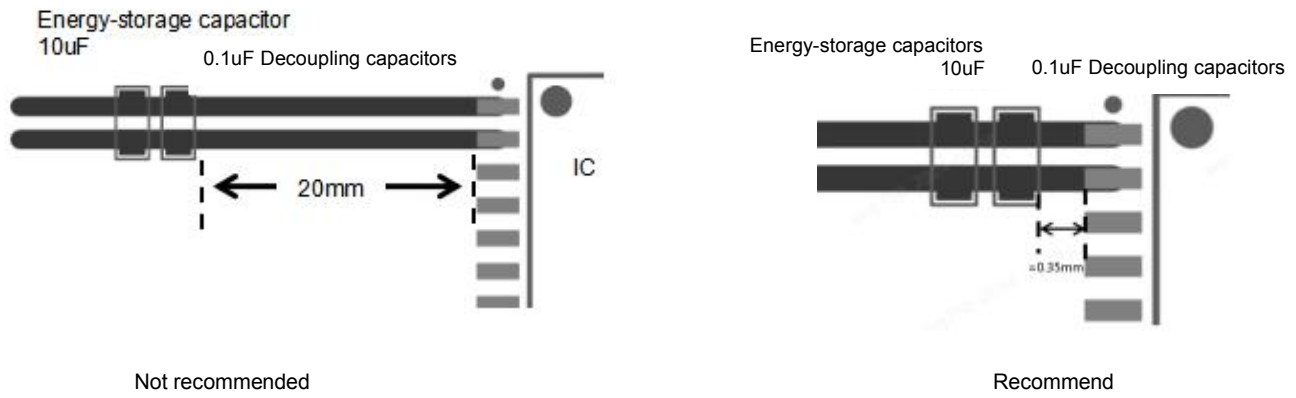

Figure 17-1
1. The decoupling capacitors and energy storage capacitors of VCC and GND1, VISO and GND2 should be placed as close to the chip pins as possible to reduce the loop area and parasitic inductance of PCB wiring. Generally, it should be controlled within 0.35mm. The decoupling capacitor is placed near the chip, and the energy storage capacitor is placed on the outside. As shown in Figure 17-1.